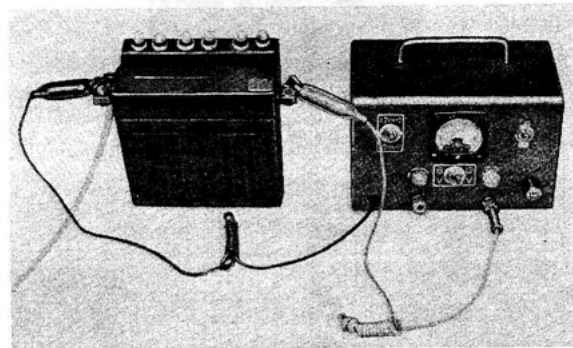

Fig. 2-8. Supplement charging of Battery
- (1) Inspect battery periodically, once a week for automotive use. At least twice a month or after each 1.000~2.000 km (620~1.860 mile) running.
(2) Special attention should be paid on the level of solution and if short supply distilled water or drinking water (no content of metal as ferrous). If the case of battery is transparent there is shown level of solution, but generally the height of solution should be adjusted about 13 mm (0.51 in.) over the separator. If the pole plate be exposed in the air due to drop of level, there occurs oxidation on the plate making white sulphuric lead which decrease volume of battery, and effect the performance of exposed plate to be serious cause of inner shorting. So many troubles are experienced due to this cause, therefore it wouldn't be exaggeration to say that is the most part of causes to shorten its life.
(3) Keep always in charged state. If used for a long time in insufficient charged state trouble called sulphation will be accelerated and at last it invites such difficulty as to make it hard to restore original substance by usual charging. Such pole plate warps easy to short. On the other hand, if used with thin solution due to over discharging separator gets damage. Therefore it is requested to supplement change before the discharge limit. (Fig. 2-8~2-10)